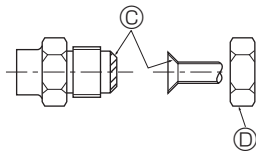

Fig. 4-5
4.3. Connecting pipes (Fig. 4-4, Fig. 4-5)
[Fig. 4-5]
(A) (Fig. 4-5)